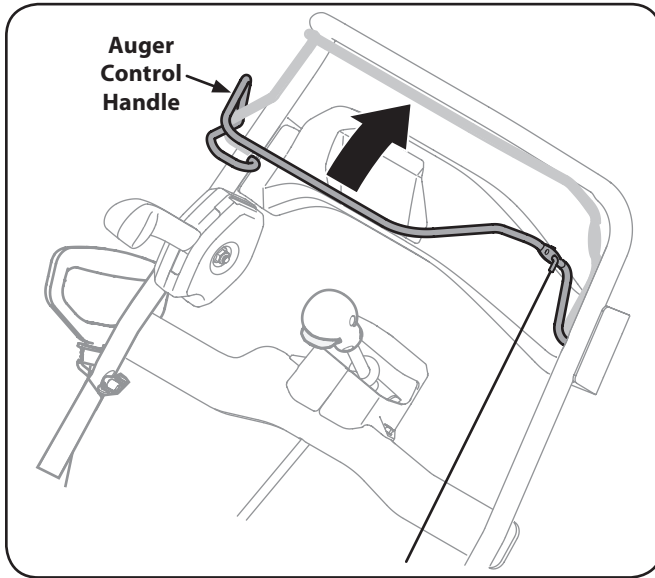

Figure 5-1
1. To engage the auger and start throwing snow, squeeze the auger control against the handle. Release to stop the auger. See Figure 5-1.